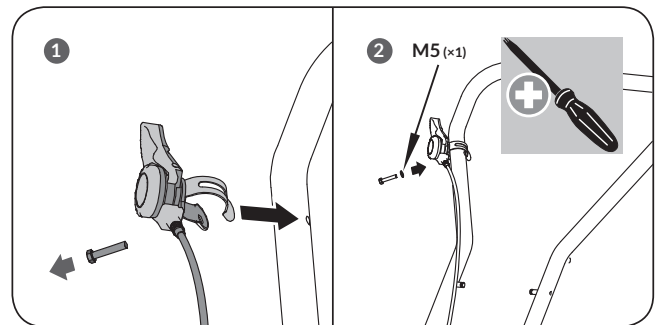

Figure 2c
4. Unscrew bolt 5x35 from throttle control. Secure the throttle control onto the upper handle with a flat washer 5 and the bolt 5x35 that just were unscrewed. (See **Figure 2c, illustration 1 & 2**)